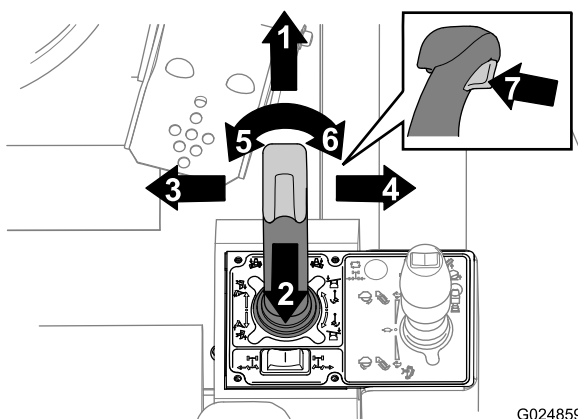
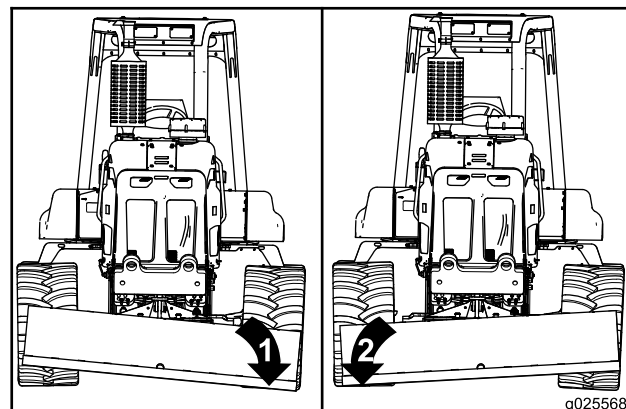
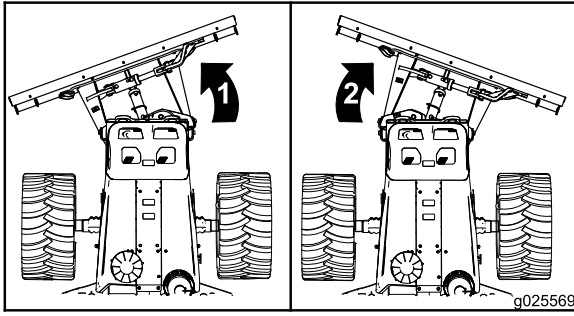

Figure 48
Figure 51
Figure 52
Use the backfill blade to return the spoils into the trench. You control the backfill blade with the backfill-blade/vibratory-plow joystick. Use the joystick, trigger, and thumb switch as shown in Figure 48.
- To tilt the backfill blade down on the left: Move the joystick left—toward you (Figure 48 and Figure 51).
- To tilt the backfill blade down on the right: Move the joystick right—away from you (Figure 48 and Figure 52).
- To angle the backfill blade to the left: Press the left half of the thumb control (Figure 52).
- To angle the backfill blade to the right: Press the right half of the thumb control (Figure 52).
- To hold the backfill blade: Keep the joystick in the Hold (Neutral) position (Figure 48).
- To float the backfill blade: Pull the trigger (Figure 48).